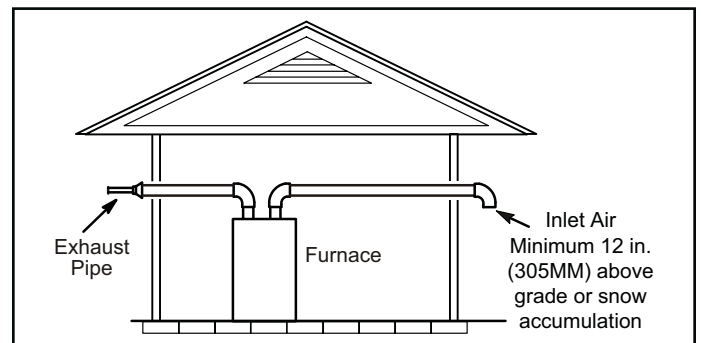

Figure 35. Exiting Exhaust and Intake Vent (no common pressure zone)
1. Intake and exhaust terminations are not required to be in the same pressure zone. You may exit the intake on one side of the structure and the exhaust on another side (Figure 35). You may exit the exhaust out the roof and the intake out the side of the structure (Figure 36).